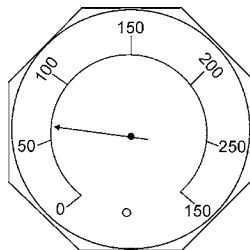

Figure 25. Hydraulic Oil Temperature Gauge
8. Use the volume control, to set the pump volume to approximately **10 strokes per minute**. Turning the volume control clockwise (CW) will **decrease** pump volume, and counterclockwise (CCW) will **increase pump** volume. A **thumping** sound (cylinder stroke) should be heard. The thumping sound represents the number of strokes per minute (volume) of the pump.
9. Let the pump cycle until the hydraulic oil temperature (Figure 25) is approximately 50 to 60 degrees fahrenheit.